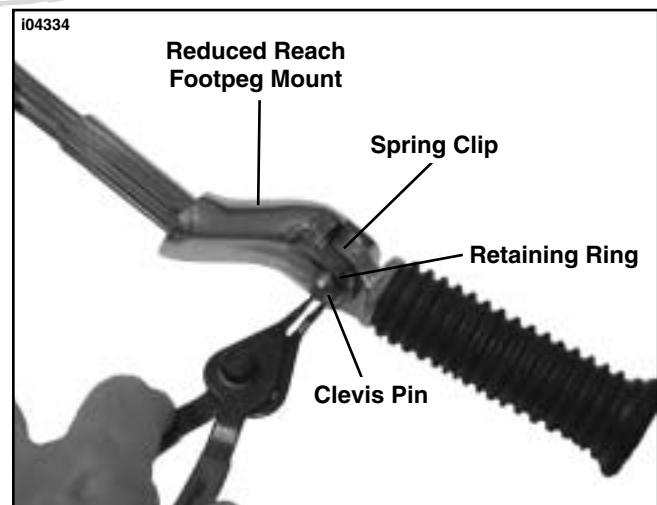

Figure 3. Install Footpeg to Reduced Reach Mount
4. See Figure 3. Obtain reduced reach footpeg mount, clevis pin and retaining ring from kit. Align footpeg and spring clip with new mount and install clevis pin. Use retaining ring pliers and install retaining ring to secure clevis pin.